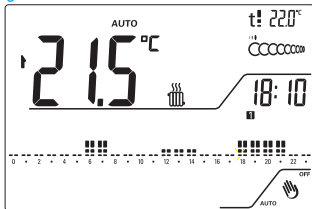
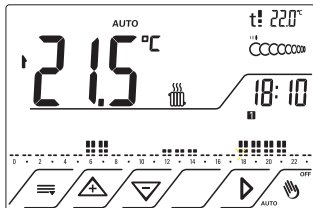

Fig.2
Fig.9
3.1 Starting from Stand-by, Fig.2, press . Fig.9
4.2.1 Start display by pressing  ^{OFF}. Fig.9